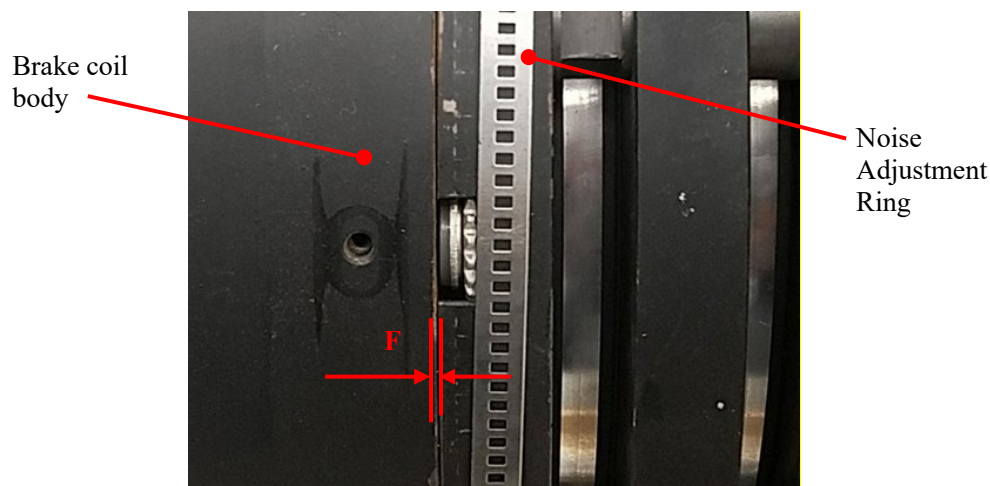

Figure 56 Slide off the Noise Adjustment Ring
CAUTION! The edges are sharp. See Figure 56.
3. Loosen all of the noise adjustment sprockets so that there is maximum gap in between the pad and the brake coil body. Reference gap “F” in Figure 56 above.